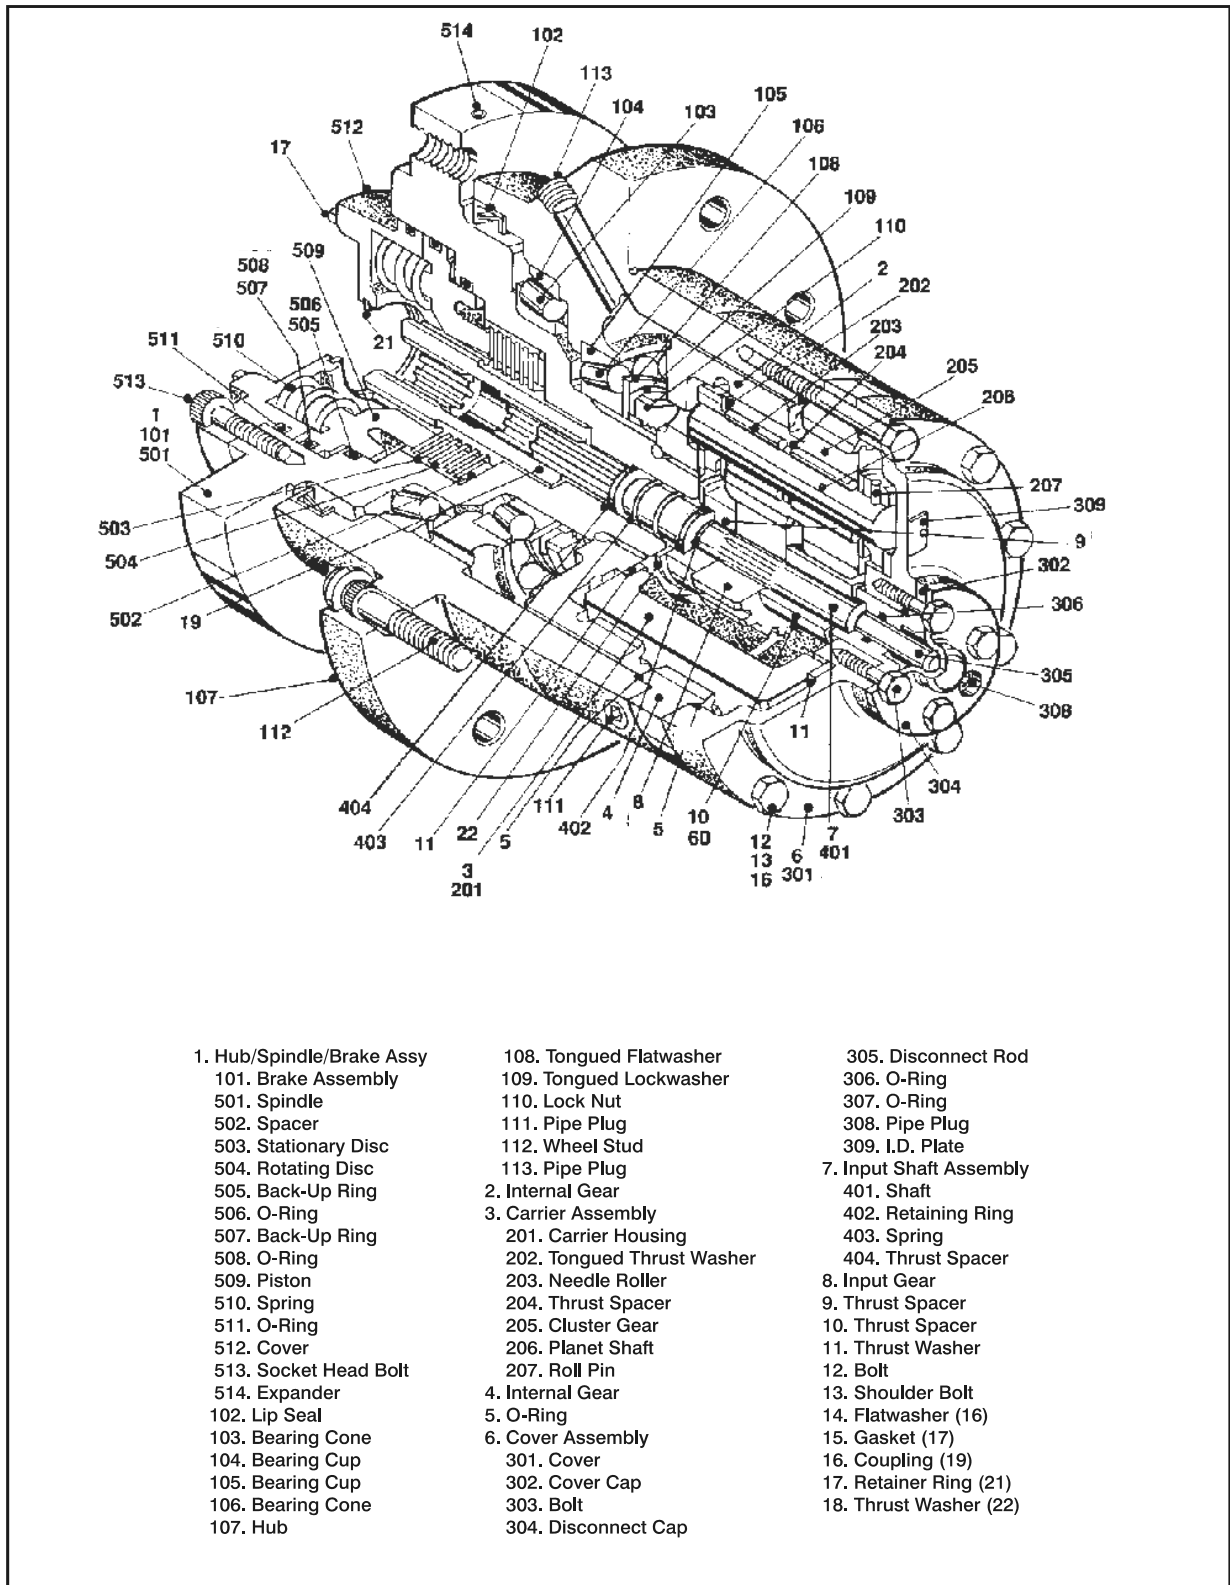

Figure 2-10. Drive Torque Hub/Brake - 4WD Front
20. Place cover assembly onto ring gear. Align pipe plug holes in cover and hub as shown in Figure 2-10. Make sure shoulder bolt holes in cover and ring gear are aligned.